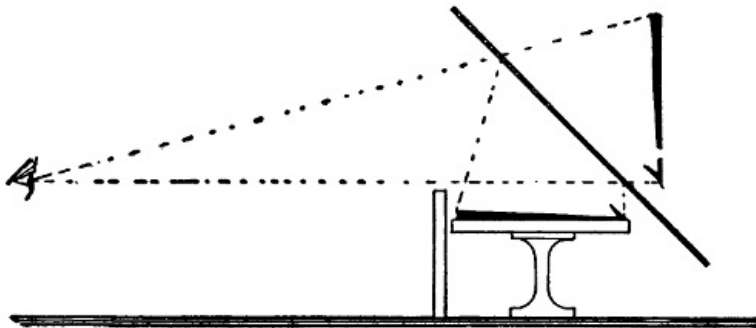

FIGURE 116.
*Human Figure Floating or Performing in Air.*—This act is arranged by means of a large mirror placed upon the stage as shown in Figure 116. In the *pit* out of sight of the audience is a revolving table draped in dull black and all of the pit is draped in the same manner. A figure lying upon this table dressed in light clothes will appear erect in the mirror as indicated by the arrow. If now the table is revolved, the figure will be seen as turning over in the mirror. The figure upon the table may perform a number of evolutions suggestive of floating, flying, etc. The black cloth of the pit will reflect no light and only the figure will be visible. If a glass plate is used instead of a mirror, suitable scenery may be arranged back of it. The figure must of course be brightly illuminated. By moving the table upon which the figure rests across the pit, the figure will appear to move along.